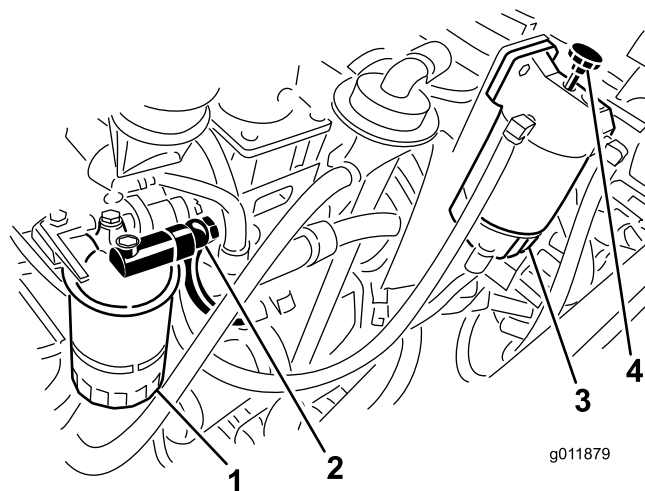

Figure 64
5. Loosen the banjo fitting on the fuel filter housing (Figure 64).
6. Operate the water separator priming pump until a solid stream of fuel is detected at the banjo fitting (Figure 64).